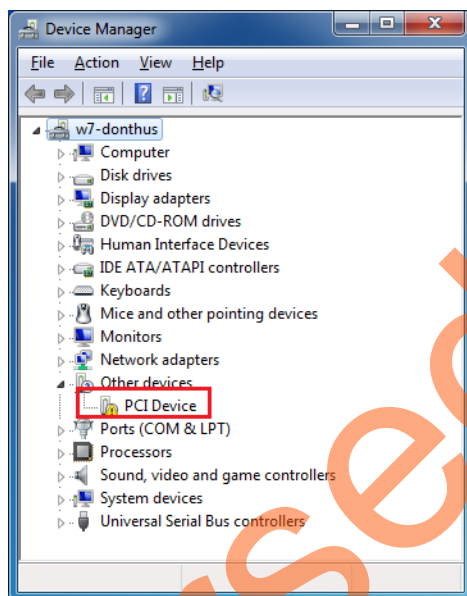
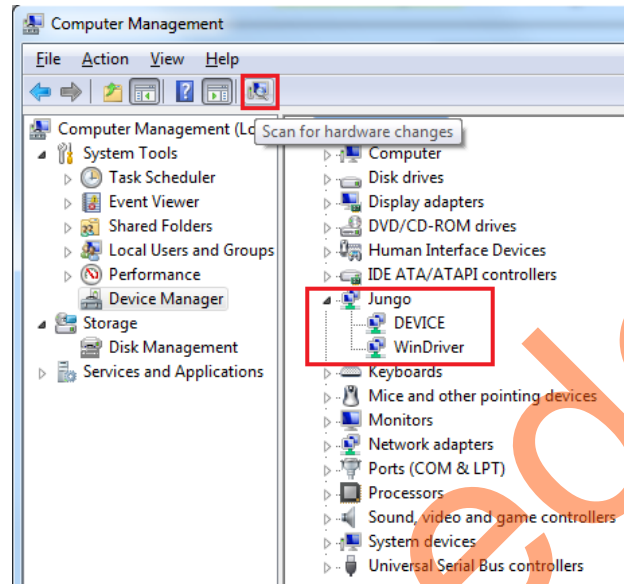

Figure 8 • Device Manager - PCIe Device Detection
Figure 13 • Device Manager - PCIe Device Detection
7. Power on the host PC and check the host PC's **Device Manager** for **PCIe Device**. It will be similar to Figure 8. If the device is not detected, power cycle the SmartFusion2 Security Evaluation Kit and click “scan for hardware changes” (as shown in Figure 13 on page 17) in **Device Manager**.
8. If the host PC has any other installed drivers (previous versions of Jungo drivers) for the SmartFusion2 PCIe device, uninstall them and make sure that the PCI Device is displayed in the Device Manager window as shown in Figure 8.
1. Check the host PC **Device Manager** for the drivers. It will be similar to Figure 13. If the device is not detected, power-cycle the SmartFusion2 Security Evaluation Kit and click **scan for hardware changes** in **Device Manager**.